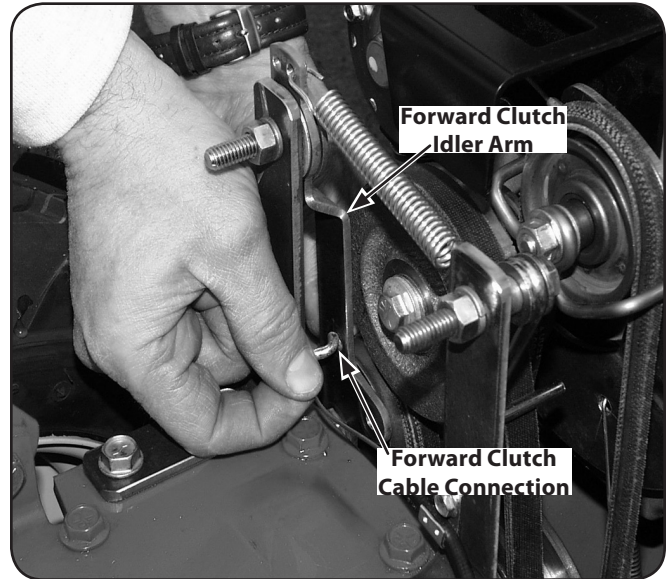

Figure 7-2
4. Disconnect the forward clutch cable from the forward clutch idler arm bracket. See Fig. 7-2. Note the hole from which you disconnect the cable. It is important that you reconnect the cable to the same hole.
10. Reconnect the forward clutch cable to the correct hole in the idler arm bracket, as shown in Fig. 7-2.